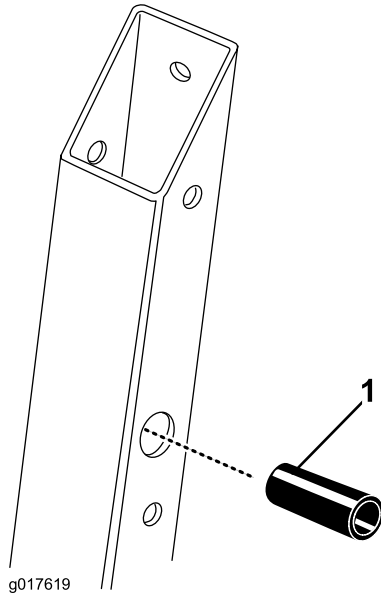

Figure 3
1. Insert the cylindrical spacer in the pivot holes in both rollbar supports (Figure 3).